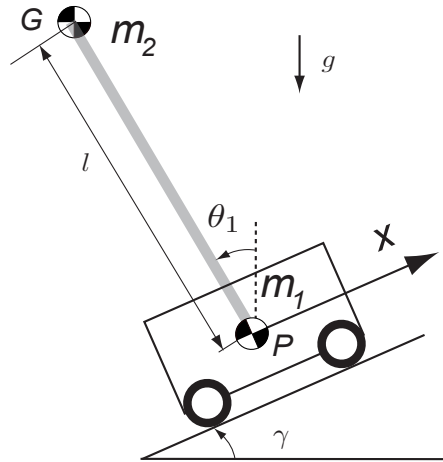

Figure 2: A cart-pendulum
2. **Balance control of a rotated cart pendulum** Your goal is to balance a pendulum on a cart placed which is placed on an incline as shown in Fig. 2. The only control input to the system is a force applied to the cart. The pendulum should be balanced such that $\theta_1 = 0$, where θ_1 is the angle between the pendulum and the vertical. You do not need to model a cart with wheels. You can model the cart with a mass and sliding joint. You can assume suitable model parameters, but take the slope of the inclined plane as $\gamma = 30^\circ$. Develop an LQR controller for the cart-pendulum and demonstrate that the system is able to balance when pushed by gaussian (normal distribution) forces.